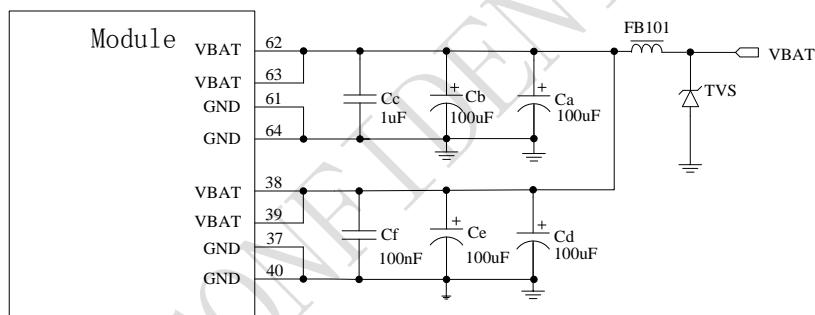

Figure 7: VBAT input reference circuit
*Note: test condition: Vbat power supply 3.8V, $C_d = 100 \mu F$ tantalum capacitance (ESR equal to 0.7Ω), $CF = 100nF$. (Refer to figure 7 for circuit)